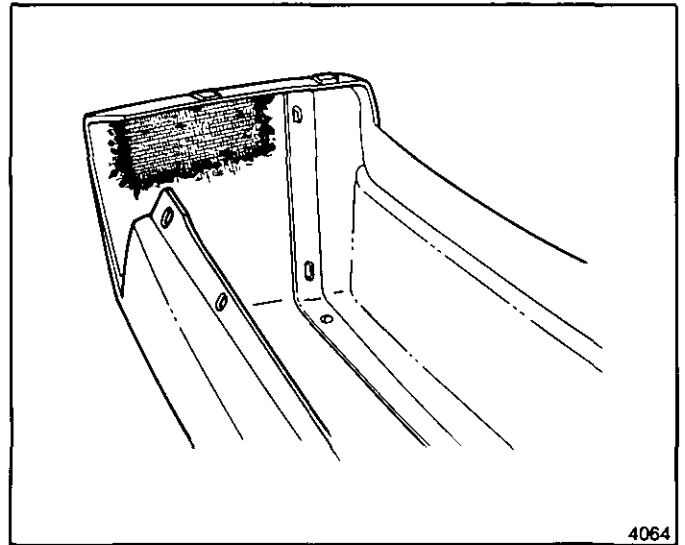

Fig. 1-23-Applying Fiberglass Cloth to Repair Material
- Apply the precut fiberglass cloth to the adhesive and immediately cover the cloth with additional adhesive in sufficient quantity to fill the weave (Figs. 1-23 and 1-24).